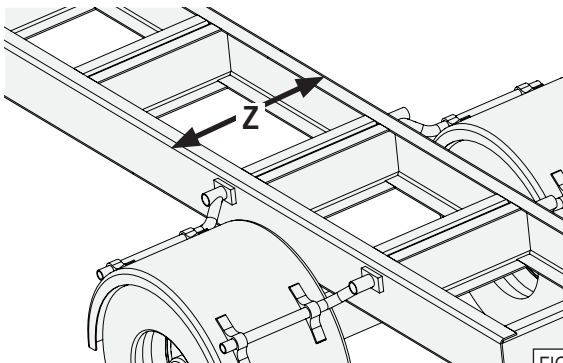

FIG. 166
- Measure the outside frame rail distance "Z", see Figure 166.